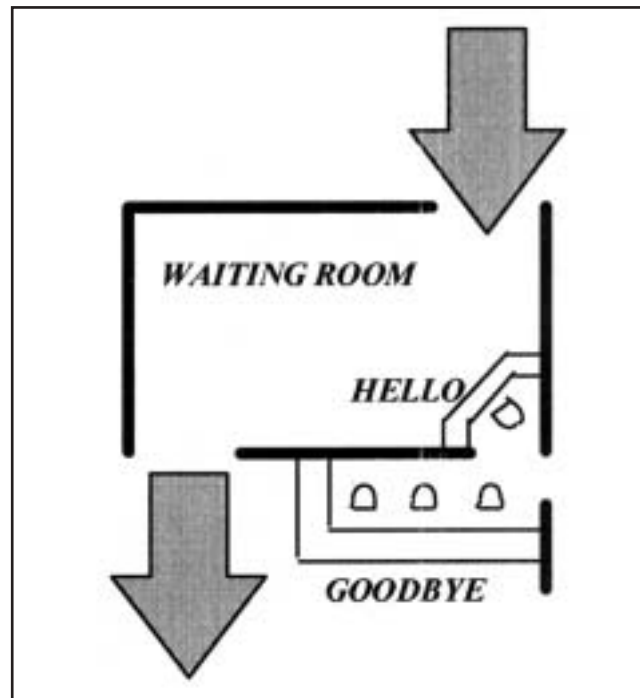

Figure 9. Sample reception area/business office.
- Check out should be performed outside of the waiting room; this is not only a privacy concern but also an issue of controlling the patient flow and being sure that each patient checks out before they leave your facility. The desk shown in Figure 9 shows the check-out desk on the clinical side of the practice, yet close to the receptionist. In this case, the patient has to go by the check-out desk to get back to the waiting room.